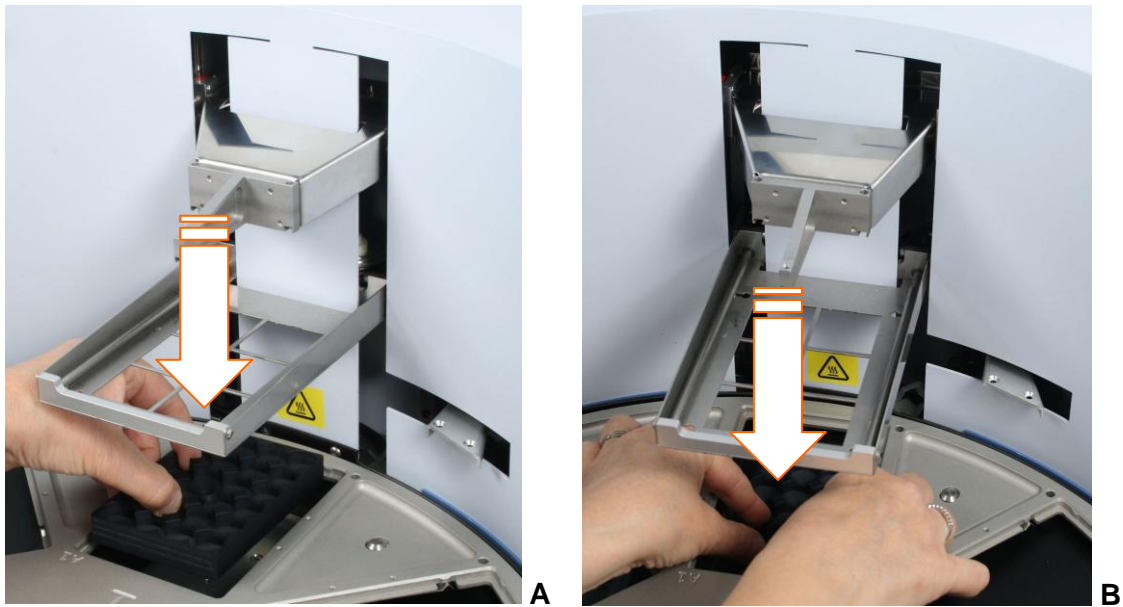

Figure 11. Inserting (A) and pressing the heating block into place (B)
3. Insert the heating block by first setting it and then pressing it hard into place (Figure 11 A and B).